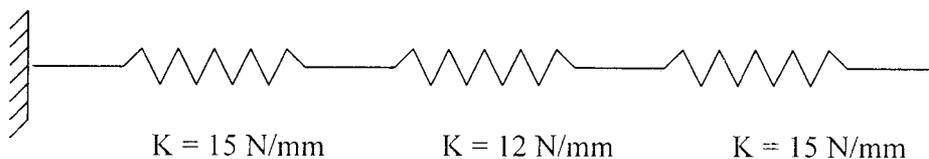

Fig. 2
11. (a) (i) The displacement method is often preferred in general. Justify. (6)
- (ii) Form stiffness matrix for the spring system shown in fig.2. (10)